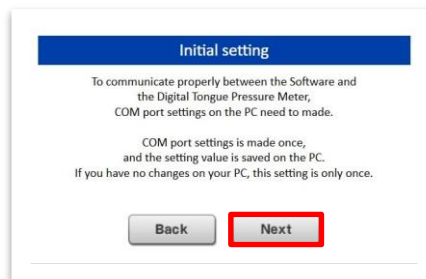

Figure 18 How to access the control panel
- 5-3-2. Open "Device manager" from "Control panel" (Figure 18) to confirm which COM port the Digital Tongue Pressure Meter is connected to on the PC. Open "Device manager" and click "Next".